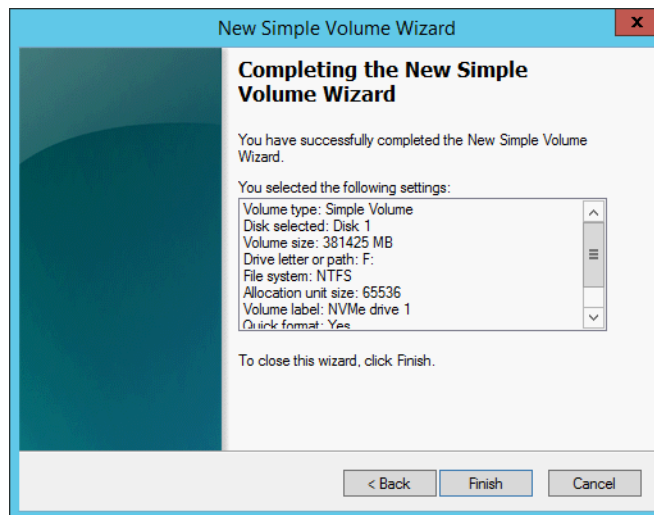

Figure 5-55 Completing the wizard
8. Review all parameters and click **Finish**, as shown in Figure 5-55.